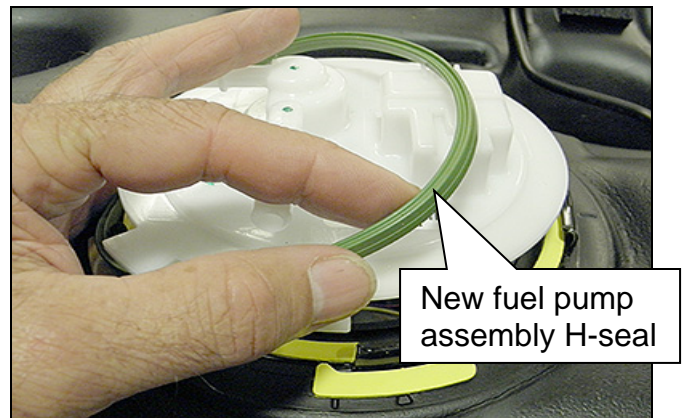

Figure 9
9. Install the new fuel pump assembly H-seal (Figure 9).